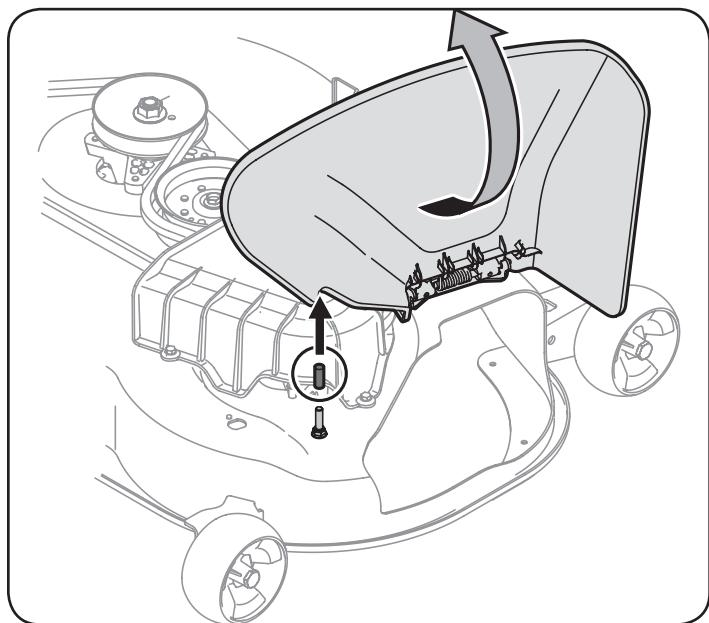

Figure 3
- Pivot the chute deflector upward and remove the protective cover from the pin found on the deck's surface. See Figure 3.